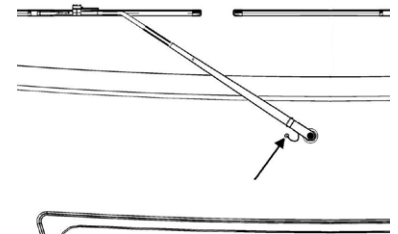

Figure 1
2. Remove the washer hoses from the bulkhead fittings. (Figure 1)